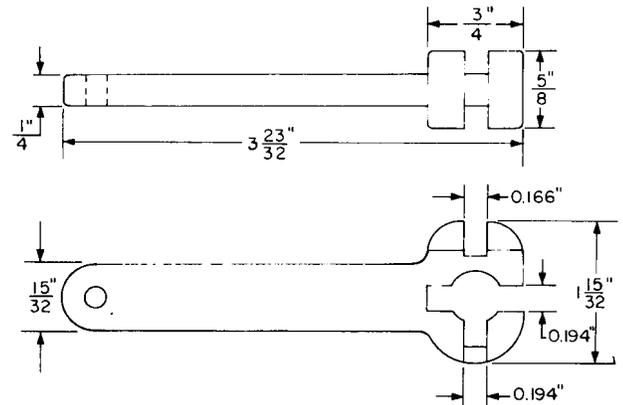

Fig. 1—AECO H-7057 Adjuster Tool
**2.01 AECO H-7057:** The AECO H-7057 tool (Fig. 1) is a wiper-shaft aligning wrench used on 197- and 198-type switches.